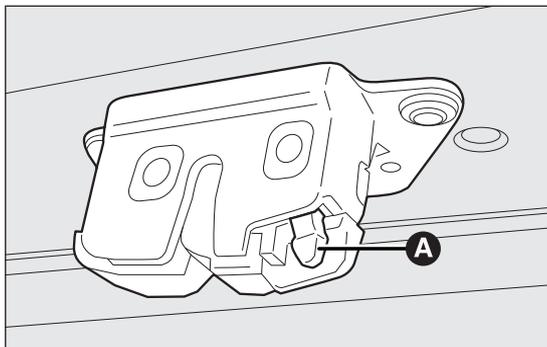

fig. 63
- from inside the boot, press lever A fig. 63 and open the tailgate.